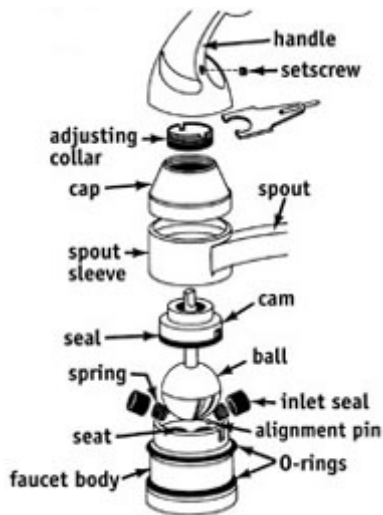

FIG. 5 - Ball faucet
- For a handle leak, try using the spanner wrench to tighten the adjusting collar (Fig. 5). Tighten it by turning the wrench and collar clockwise until the faucet doesn't leak when it is turned on and off. If the adjustment is too loose, the faucet will leak. If you turn it too tight, the handle will be hard to move. When the adjusting ring cannot be turned with the wrench, it is corroded. At this point, you will need to remove the cap to free the adjusting ring. (See next step.) You *must* turn the water off before removing the cap! Apply penetrating oil to the threads, remove the ring and clean all parts before reassembling.
- *Swing spouts.* If a single-lever ball faucet leaks at the base, you should replace the O-rings. Remove the spout-retaining parts, as well as the spout. Wrap the spout-retaining nut with electrical tape to protect it, and remove the nut with a wrench or pliers by turning counterclockwise. Remove the spout by pulling it up and side-to-side. One or more O-rings should now be exposed (Fig. 5). Take the O-rings to your hardware or home center store to get matching O-rings for replacement. Clean any scale that appears on the spout base, faucet body, and the